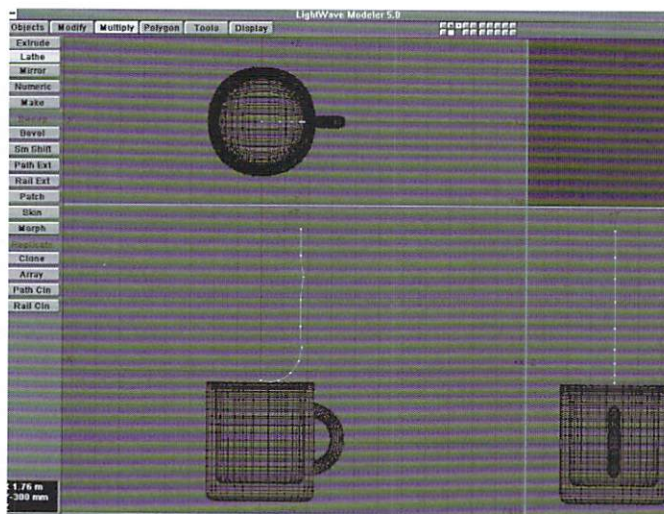

Figure 4: Points are added and a closed curve is made.
3. Now add roughly six more points evenly spaced (about one grid square) up from the last point in the face view. Make the last point you add on the center axis, but at the bottom near where you started. Once all of the points are in place, select them in order, and press Ctrl p to make a closed curve, just like the one in Figure 4. Use this figure as a reference for point placement. This doesn't have to be exact, but basically similar to the figure.